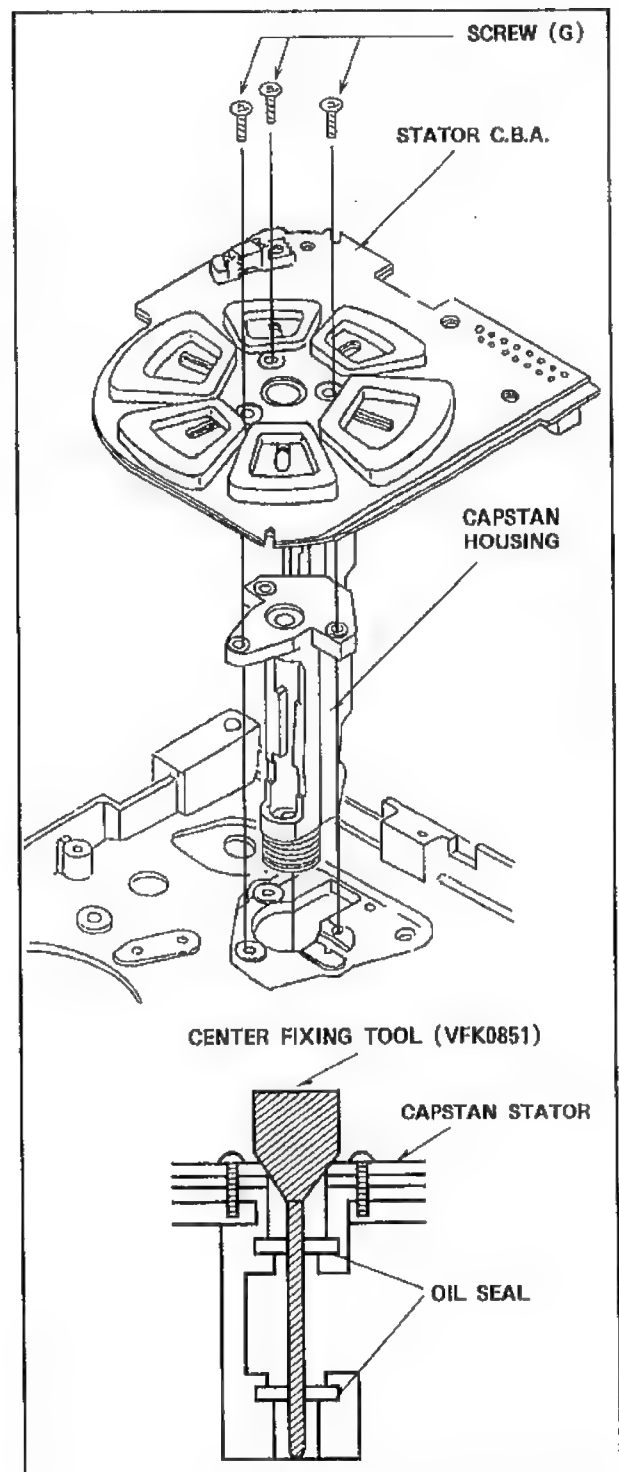

Fig.M29
2. Loosely tighten 3 screws (G).
3. Insert the Center Fixing Tool (VFK0851) as shown in Fig.M29.
4. Tighten 3 screws (G).